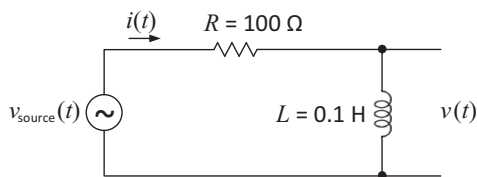

Figure 1.13 The AC circuit in Exercise 1.1.
1.1 Consider the AC circuit in Figure 1.13, which includes a voltage source: